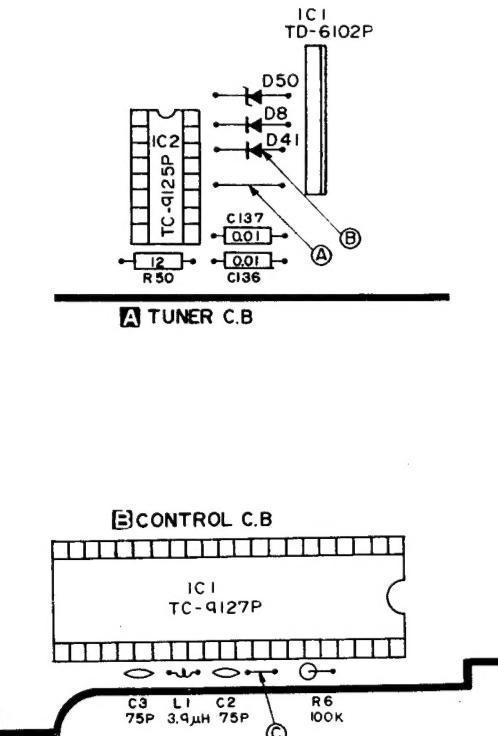

Fig. 17
This set has been designed for forced suppression of the MPX function with an ANT input level of 25 to 35 dB. This forced monaural function is obtained by a bias of 2 to 3 V at pin (16) of MPX IC,  $\mu$ PC-1161. As shown in Fig. 17,  $Q_{26}$  becomes OFF at  $I_{th}$  or less, and at point G becomes HIGH level. Voltage division is executed for this by R109, R104, and  $Q_{21}$ , and the signal at point E is obtained. This is supplied to pin (16) of  $\mu$ PC-1161.